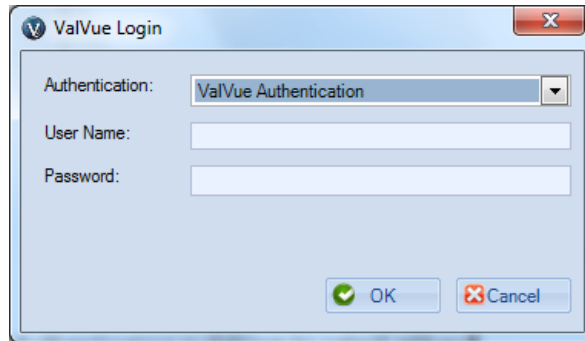

Figure 9 ValVue Login
1. Select **Start > All Programs > GE Masoneilan > ValVue 3 > ValVue**. Figure 9 appears.